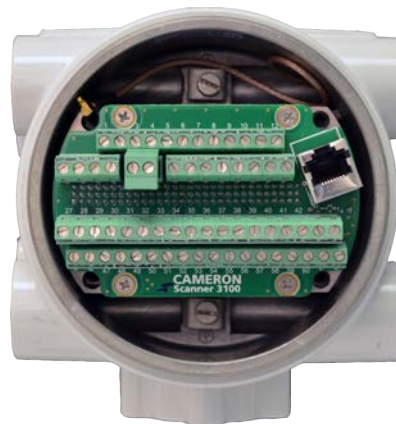

Figure 4.6—Rear view of QRATE Scanner 3100 showing terminal board
- d. Remove the rear lid of the enclosure to access the terminal board (Figure 4.6).